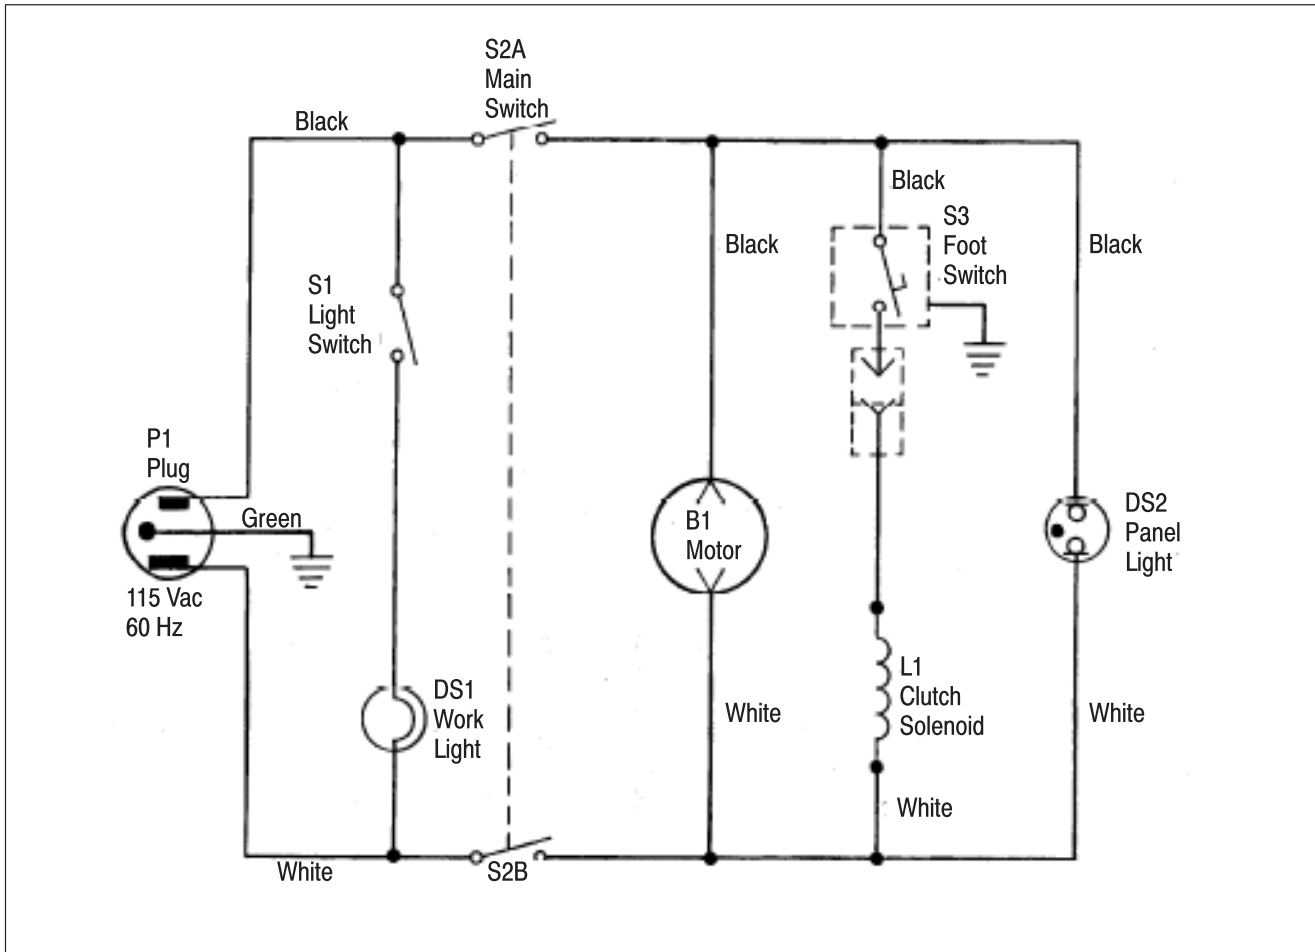

Figure 2
2.2. Electrical Description (Figure 2)